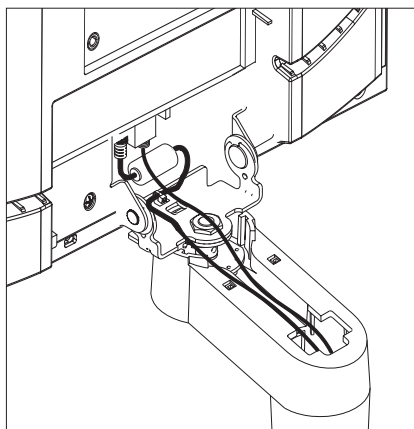

Figure 15. Routing the cables
3. Unsnap and remove the monitor connections cover and the arm cover as shown in Figure 15 by lifting them out of the system.
4. Separately route these cables up through the base of the integrated pedestal as shown in Figure 15 and through the trough in the arm of the integrated pedestal.